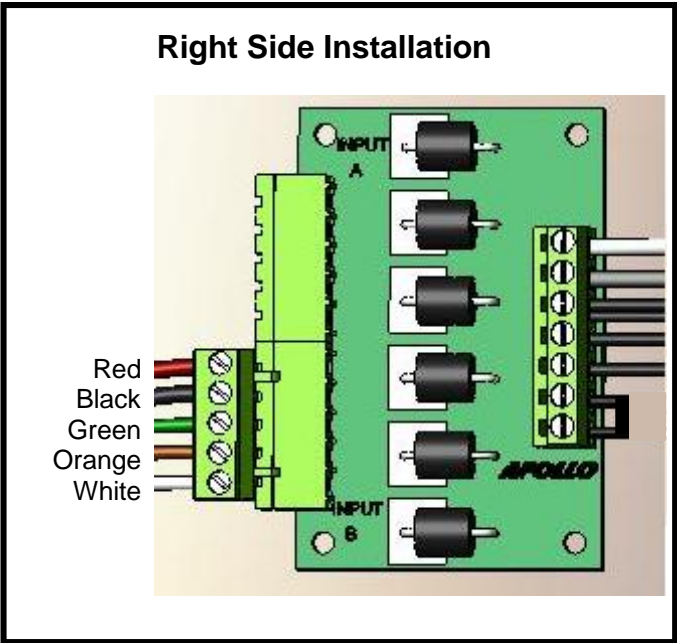

Fig. 1
STEP 1. Determine which direction the gate will open. The factory units are plugged into **INPUT B** for right hand opening as shown in **Fig. 1**.